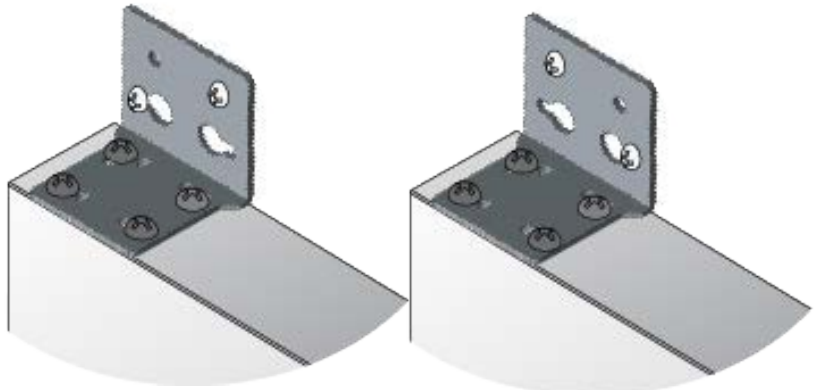

Figure 27. Two Screws Per Bracket Attached on the Wall
- ❑ When you use two screws per bracket to install your switch to a wall, the two screws must be diagonally on the bracket plate as shown in Figure 27 on page 62.